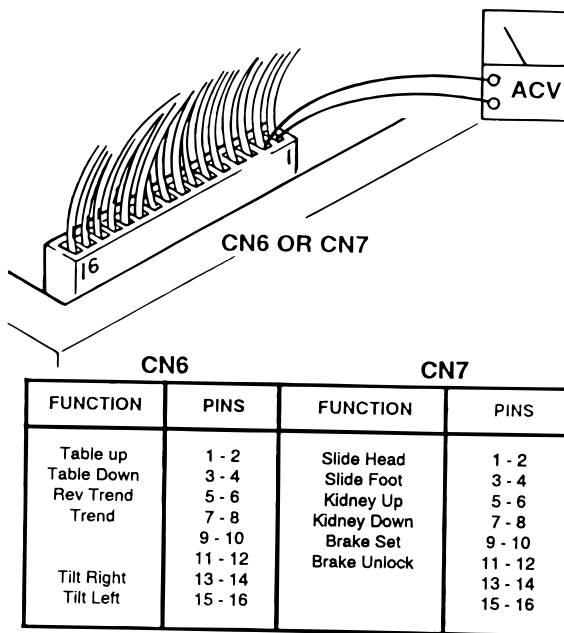

Figure 6-8. Relay Box Output Connectors CN6 and CN7
3. Activate each of the Pendant Control buttons and using an AC voltmeter capable of measuring 120VAC, measure the voltage between the appropriate connector pins located in connector CN6 or CN7. See figure 6-8. Polarity of meter test leads is not important. Meter should read 120VAC.